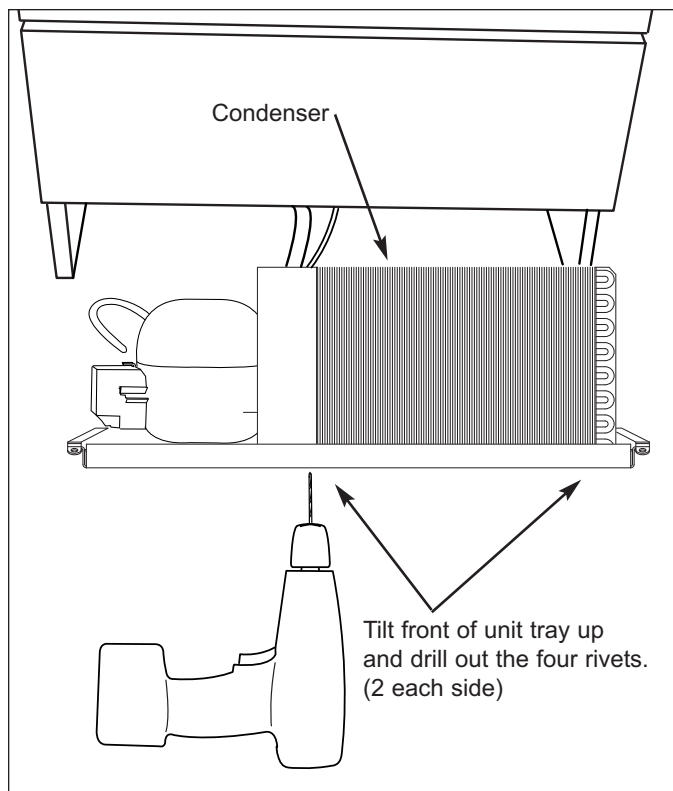

Figure 7-52. Condenser Removal
2. Prop front of the unit tray up and drill out the rivets securing condenser to unit tray. (See Figure 7-52)